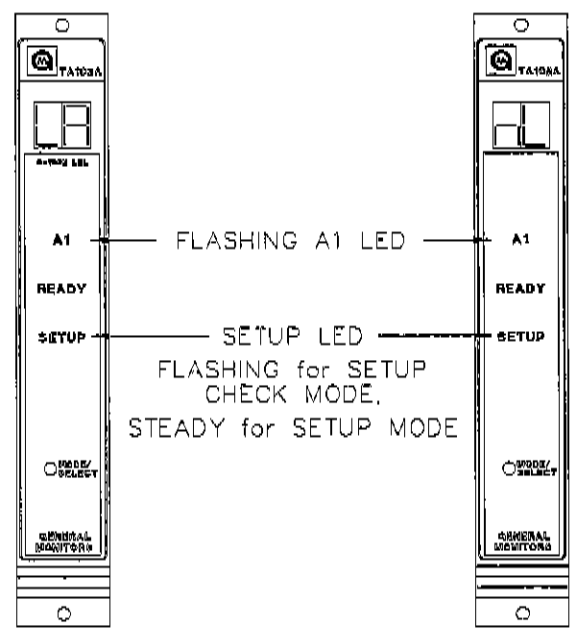

Figure 20
- The **A1** LED on the front panel will be flashing while the latching/non-latching option is displayed (figure 20). The display will indicate the current selection, (**nL** or **LA**). Non-Latching is the factory default for this selection.